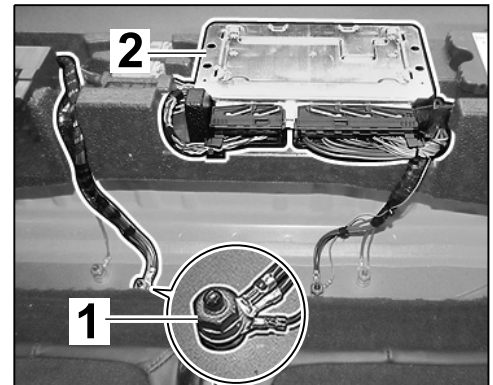

Figure 27
4.4.3 Secure cable ring eyelet to ground point 15 ⇒ *Figure 27* -arrow-.